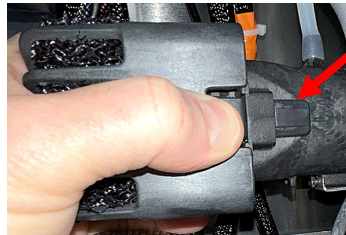
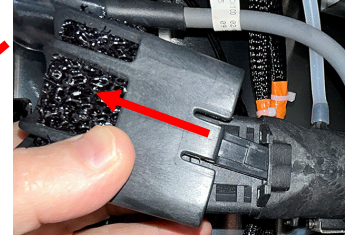

Figure 17
Figure 18
- 3) Remove the filter bracket by gently pressing in on the left and right tabs on both sides of the bracket (see Figure 17), while gently pulling the bracket off the fan (see Figure 18).